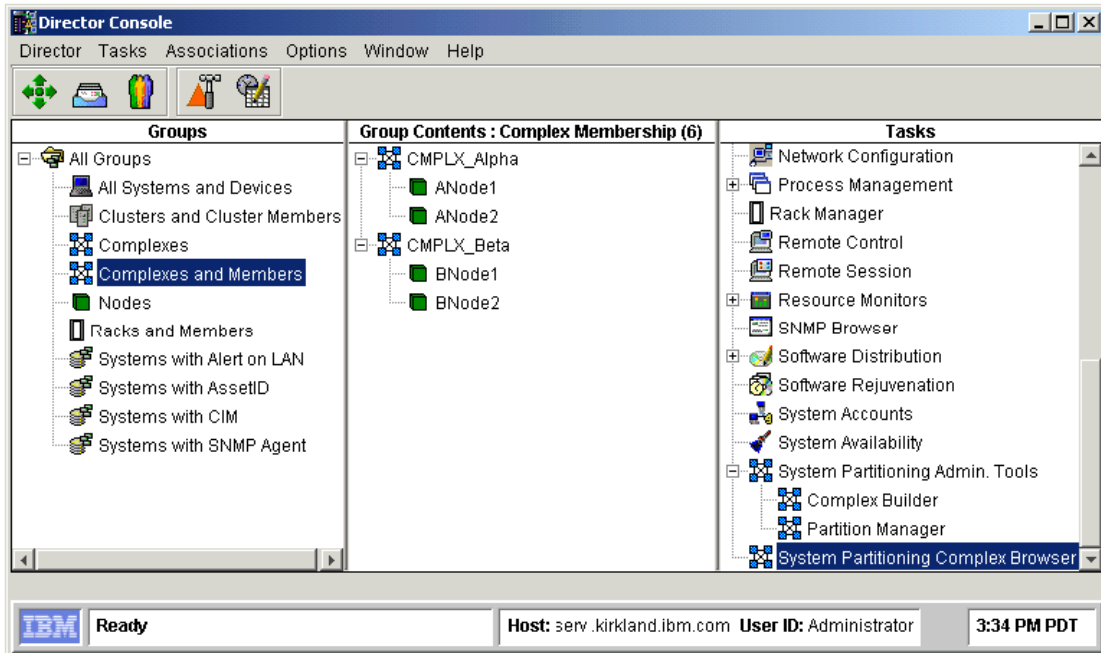
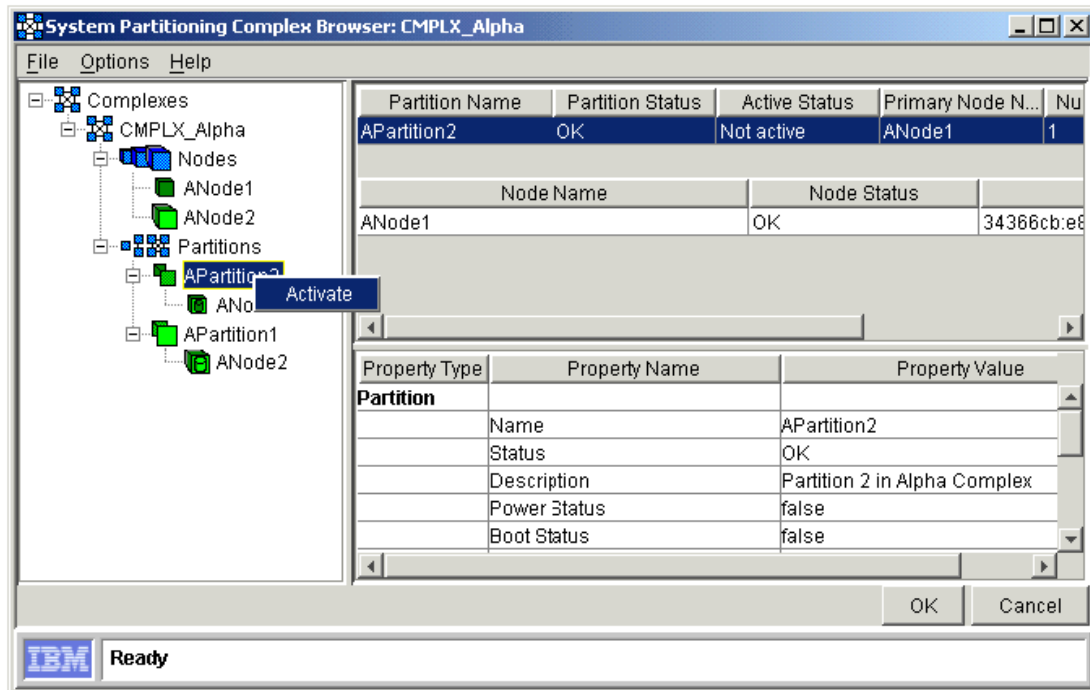

Figure 8. IBM Director console
Figure 9. System Partition Manager
IBM Director consists of three major components: a management server, the management console and agent, plus an optional fourth component, Server Extensions. (*Figure 8* shows how the new IBM Director console may look with the Enterprise X-Architecture enhancements. Note the system partitioning tasks.)
- **System Partition Manager.** System Partition Manager provides a graphical interface for creating partitions. It allows an administrator to configure a specific server (while it is offline) from a remote system, prior to starting the OS. System Partition Manager uses the network link to the onboard systems management processor to establish the relationships among nodes. These relationships are maintained in a persistent database and can be recalled and activated at any time using the graphical interface. Because System Partition Manager integrates with IBM Director (see *Figure 8*, previously), it is part of a common management infrastructure that is used to manage a running partition. (*Figure 9* shows an early version of the System Partition Manager.)